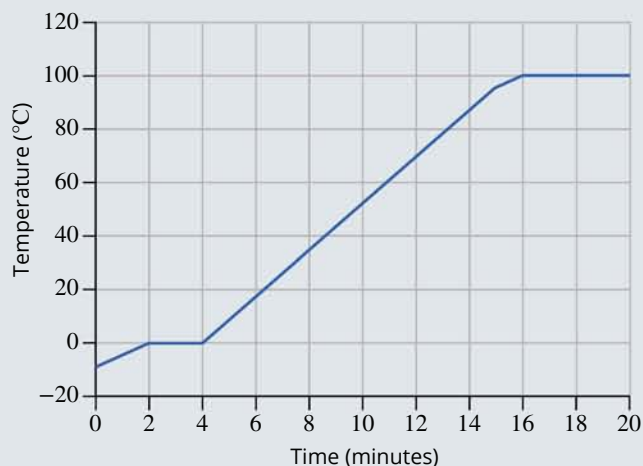

FIGURE 12.4.2
- 15** A student was asked to record the temperature changes as a sample of ice was heated. The ice was placed in a beaker and heated with a Bunsen burner for 20 minutes. The graph in Figure 12.4.2 shows the temperature, in degrees Celsius, recorded at 1 minute intervals.